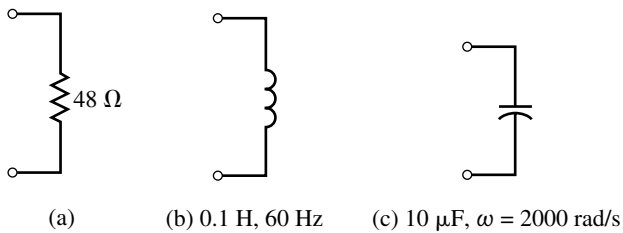

FIGURE 16–55
32. If $\mathbf{E} = 100 \text{ V} \angle 0^\circ$ is applied across each of the circuit elements of Figure 16–56: